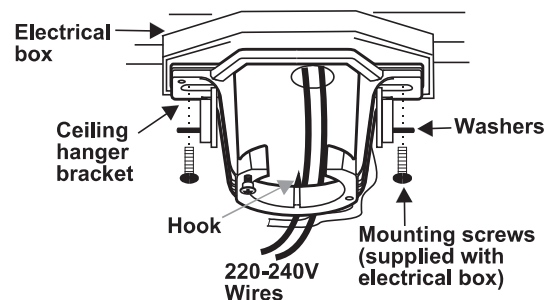

Figure 7
3. Secure the hanger bracket to the ceiling outlet box using screws and washers included with your outlet box. (Fig. 7)